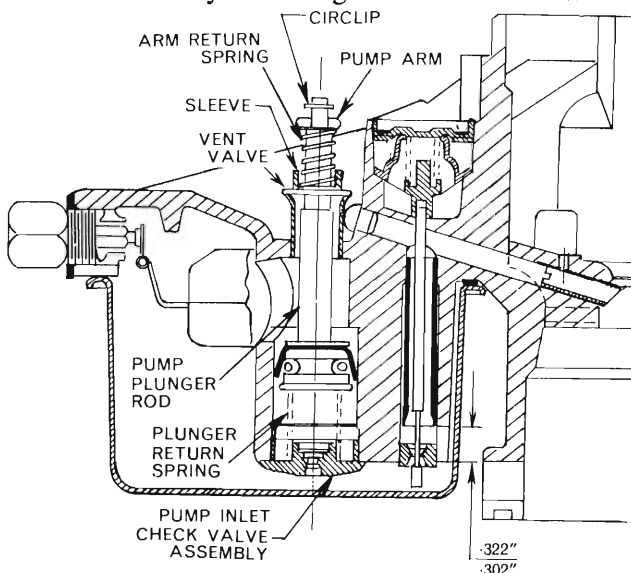

Fig. 1 - Sectioned view of carburettor showing the accelerator pump and step-up needle assembly
(3) Press or carefully drive out the accelerator plunger and spring using driver tool E14C30 over rod, to push the check valve seat assembly plug from the bore, refer Fig. 1.
(4) Lift out the spring and the accelerator piston assembly.
(5) Re-assemble by reversing the above procedure after careful cleaning, then press in the new inlet check valve assembly plug.